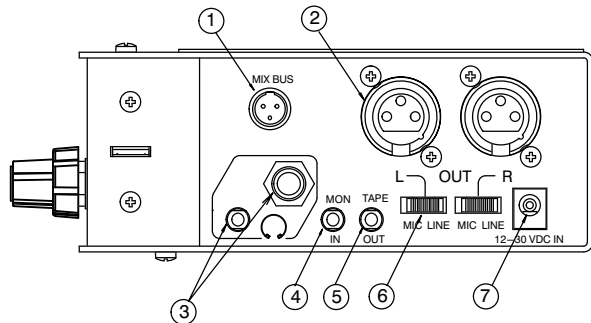

Figure 3
**OUTPUT PANEL CONNECTORS AND CONTROLS (Figure 3)**